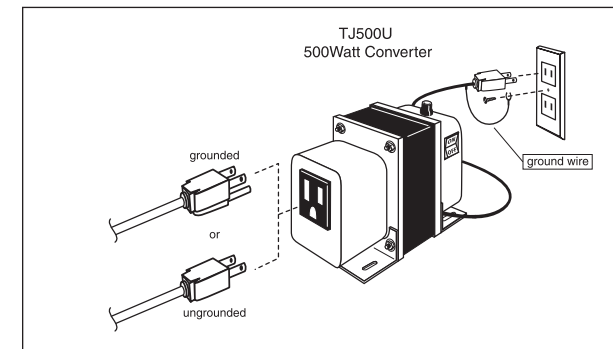

Figure 1
4. Plug your 120 VAC appliance into the receptacle. See Fig. 1. Be sure the appliance plug is fully inserted into the receptacle.